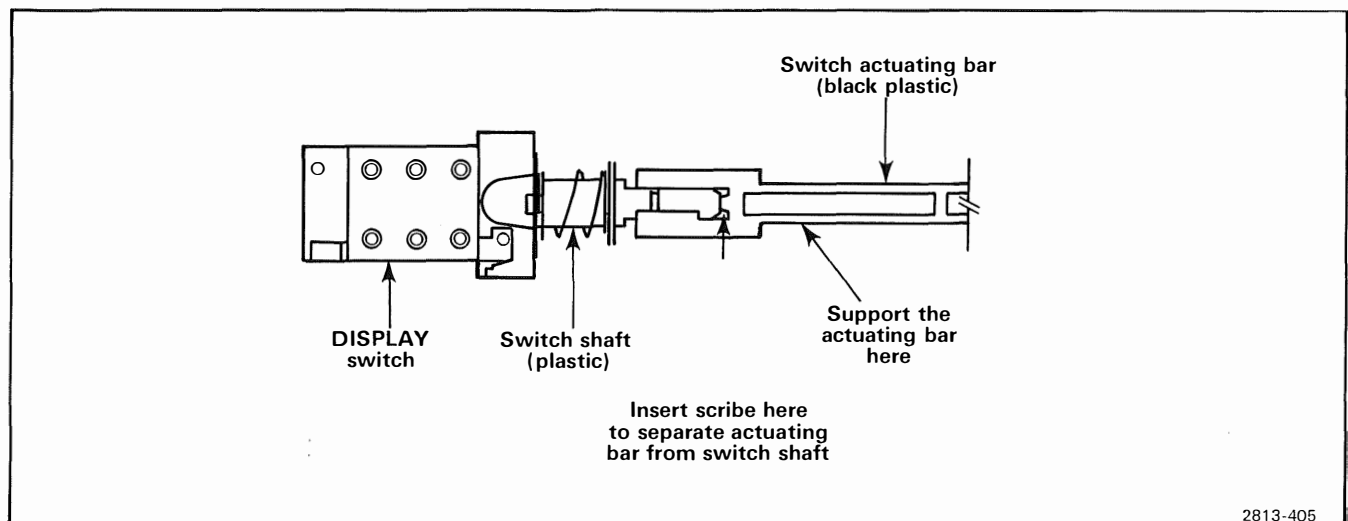

Figure 4-6. How to disconnect actuating bar from DISPLAY switch.
- b. Insert the point of a scribe, or other sharp-pointed tool, between the switch-actuating bar and the end of the switch shaft as shown in Figure 4-6. Push the scribe in to separate the bar from the shaft.